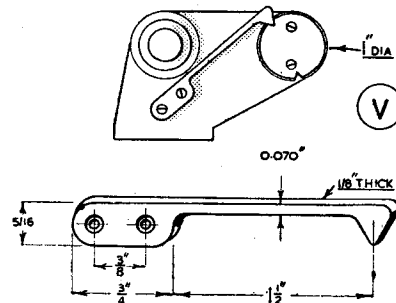

Fig. 29. The layshaft locking mechanism
The spring detent (V), Fig. 29, fitted to the rear bearing plate adjacent to the belt pulley, was filed to shape from a length of mild-steel strip and afterwards case-hardened to impart the necessary springiness. The spring is at first secured with a single screw, and the second screw is put in later after the working position of the spring has been found.